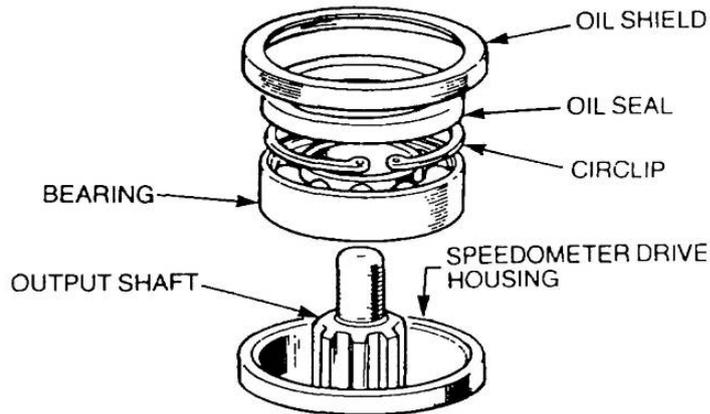

Figure 71 Removal of the Output Shaft
- o.** Remove the eight bolts and lock-washers retaining the speedometer drive housing to the transfer case and remove the housing complete with the output shaft. Remove the oil shield, oil seal and circlip (Figure 71). Using a suitable press, remove the output shaft and bearing.